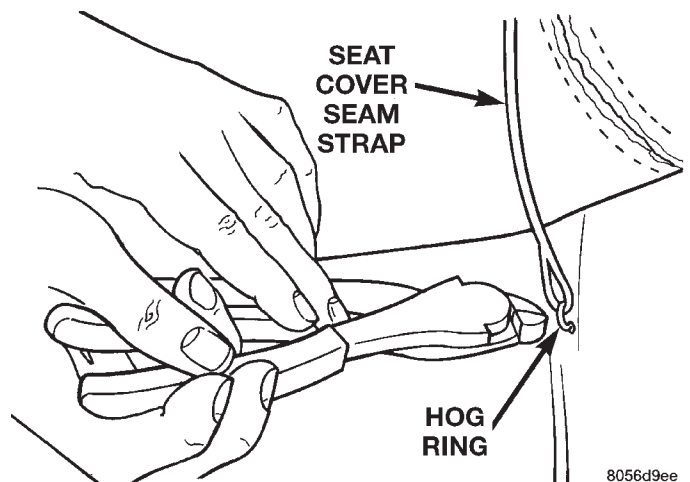

Fig. 9 Hog Rings
(7) Remove hog rings holding seat cover seam cords to wires in seat back foam (Fig. 9).
(8) Pull seat cover upward to mid point position.